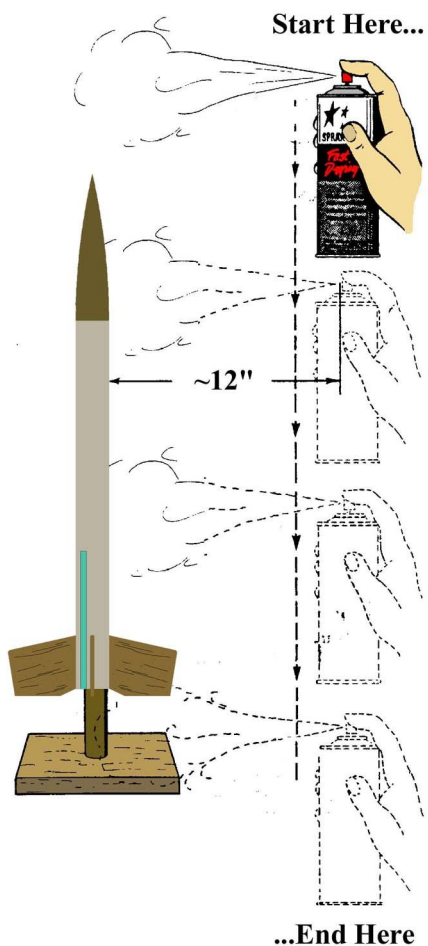

*Figure 7*
- **Step 10** Attach the fins to the body tube, with the bottom of the root edge touching the bottom of the tube, as shown in Figure 7. Use cardboard cutouts of the alignment guide to ensure the fins are properly aligned to the tube. Attach the launch lug in the same manner on the lug alignment line. Allow these glue joints to dry completely.